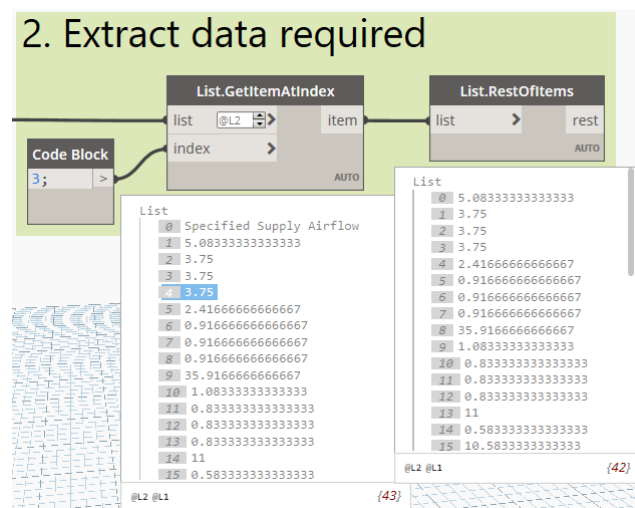

FIGURE 71
15. Group these nodes as: **2. Extract data required** and then run the graph (see Figure 71).